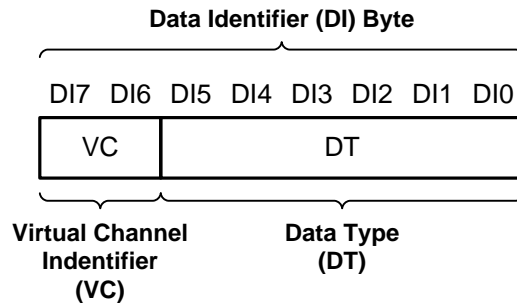

Figure 23. CSI-2 Data Identifier Structure
The DS90UB936-Q1 MIPI CSI-2 protocol interface transmits the data identifier byte containing the values for the virtual channel ID (VC) and data type (DT) for the application specific payload data, as shown in Figure 23. The virtual channel ID is contained in the 2 MSBs of the data identifier byte and identify the data as directed to one of four virtual channels. The value of the data type is contained in the six LSBs of the data identifier byte. When partnered with a DS90UB935-Q1 or serializer, the Data Type is passed through from the received CSI-2 packets. When partnered with DS90UB933-Q1 or DS90UB913A-Q1 the received RAW mode data is converted to CSI-2 Tx packets with assigned data type and virtual channel ID.